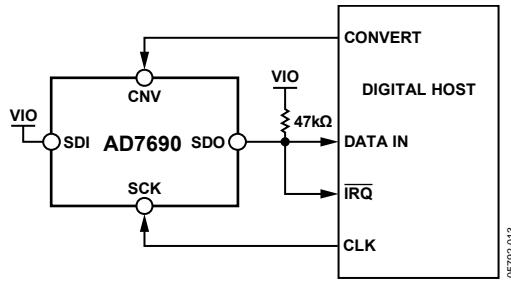
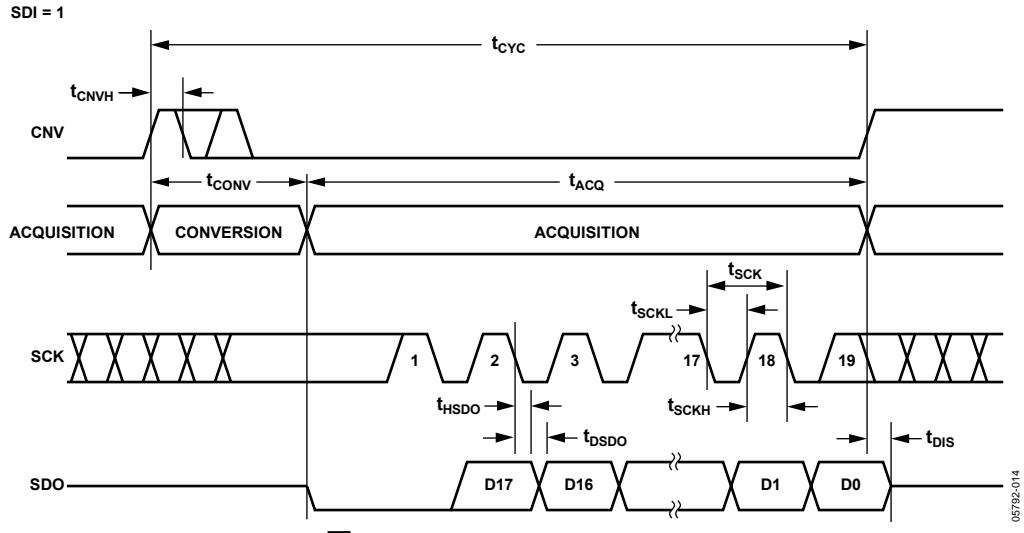
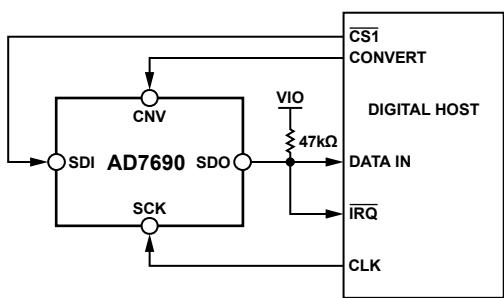
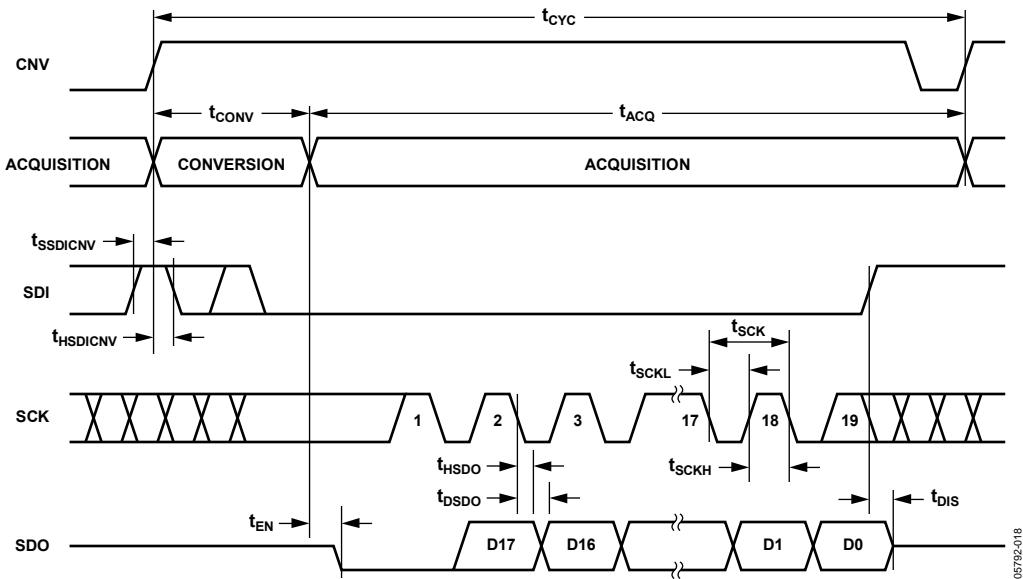

Figure 36. 3-Wire CS Mode with Busy Indicator Connection Diagram (SDI High)
Figure 37. 3-Wire CS Mode with Busy Indicator Serial Interface Timing (SDI High)
Figure 40. 4-Wire CS Mode with Busy Indicator Connection Diagram
Figure 41. 4-Wire CS Mode with Busy Indicator Serial Interface Timing
- In CS mode if CNV or SDI is low when the ADC conversion ends (see Figure 37 and Figure 41).
The connection diagram is shown in Figure 36, and the corresponding timing is given in Figure 37.
The connection diagram is shown in Figure 40, and the corresponding timing is given in Figure 41.